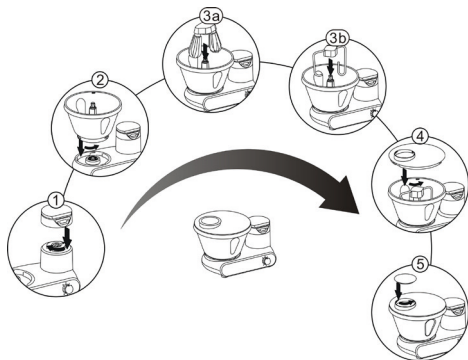

Fig. 1
- Place the scale (7) on the setting place (9) and turn them clockwise as far as it will go (fig 1).
- Install the driving shaft (4) to the setting place (5), install the bowl (3) and turn it counterclockwise.
- Put the necessary ingredients into the bowl (3). Install the lid (2) on the bowl (3) and turn it counterclockwise until bumping.
- Install the lid (1) into the opening for adding ingredients and turn it counterclockwise until bumping.
- Switch the kitchen machine on by turning the operation mode switch (10), set the required attachment rotation speed.